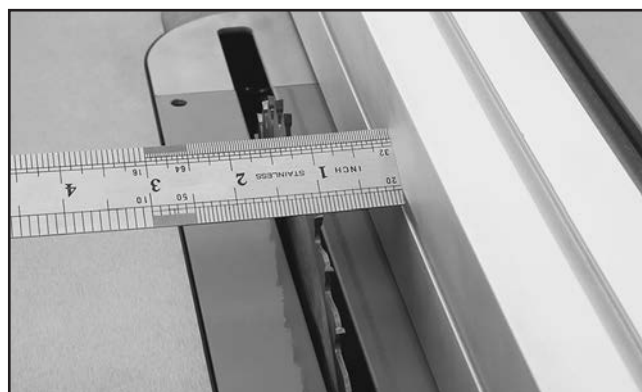

Figure 32. Checking calibration of fence scale.
22. Check fence scale calibration by moving fence to 1" mark on scale and measuring distance from blade (see **Figure 32**).